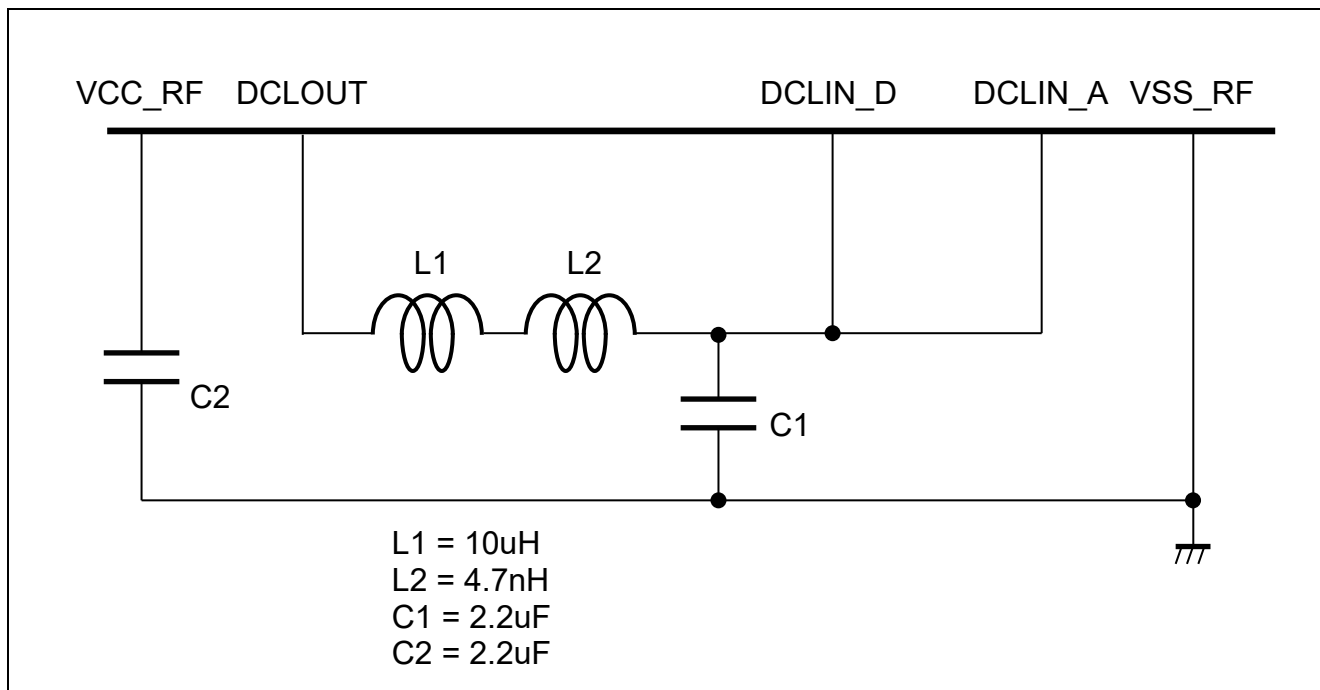
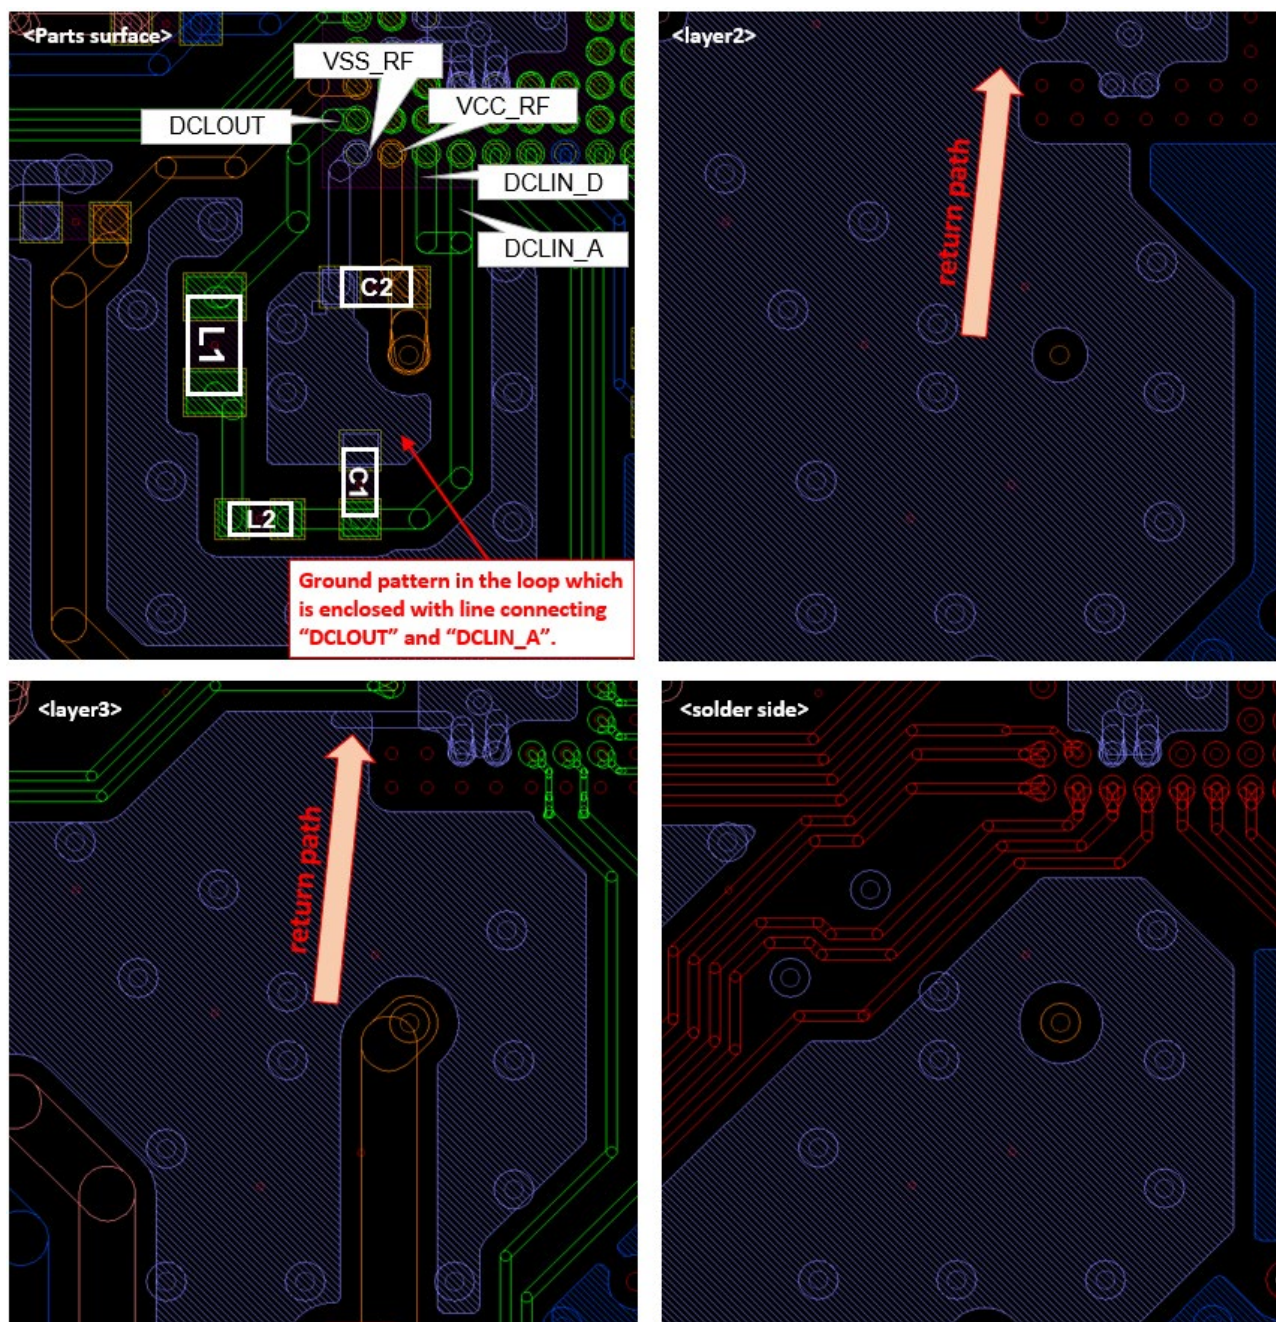

Figure 3-7 Example of the external circuit for DC-DC converter mode
Figure 3-8 Example of the PCB pattern for DC-DC converter mode
- Design the signal pattern from “DCLOUT” pin to “VSS_RF” through an inductor “L1” and a capacitor “C1” shorter and wider for low impedance connection. Place ground pattern in area which is enclosed with line connecting “DCLOUT” and “DCLIN_A”, as shown in "Figure 3-8 Example of the PCB pattern for DC-DC converter mode". In addition, connect a capacitor “C1” and “VSS_RF” to this ground pattern.
- Ensure a return path in layer2 (additional layer3 if possible) from ground in the loop to “VSS_RF”, as shown in "Figure 3-8 Example of the PCB pattern for DC-DC converter mode".
Figure 3-7 shows an example of the external circuit for DC-DC converter mode, Figure 3-8 shows an example of the PCB pattern.